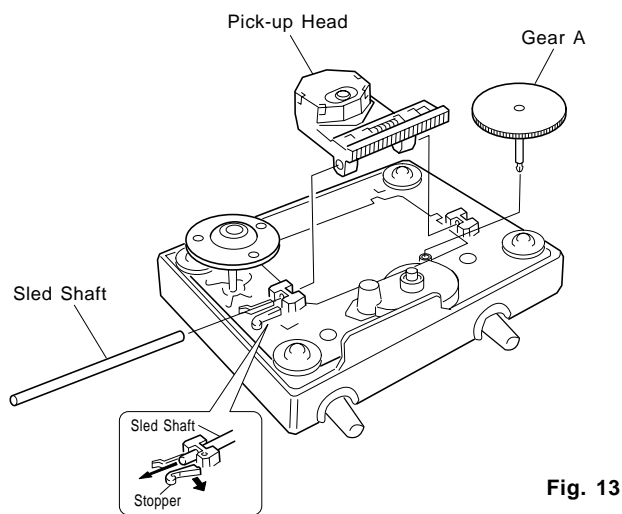

Fig. 13
- Remove the Gear A in Fig. 13.
- Pull out the Sled Shaft and remove the Pick-up Head in Fig. 13.